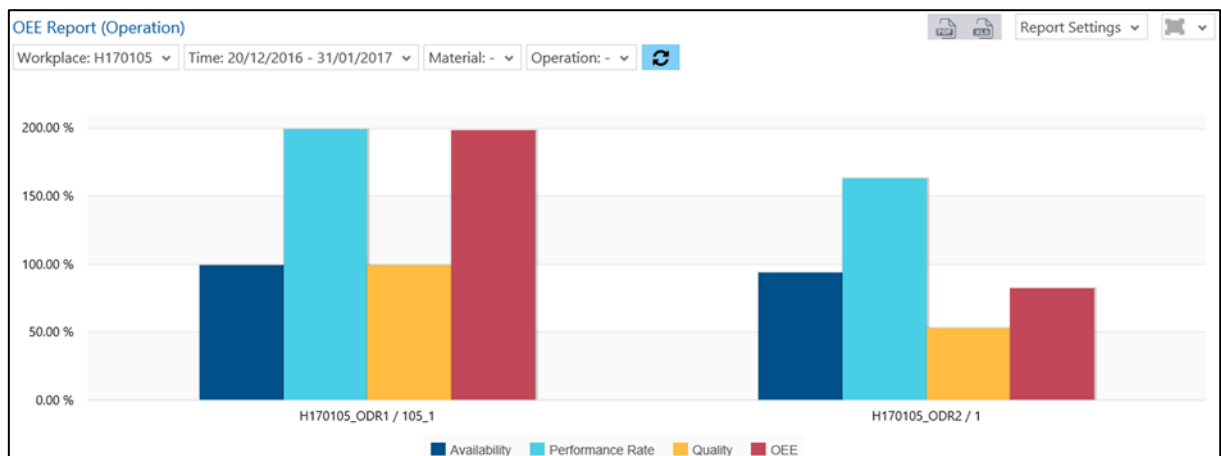

Fig. 49: OEE report (operation) as column chart
- OEE report (operation) as a column chart (fig. 49):